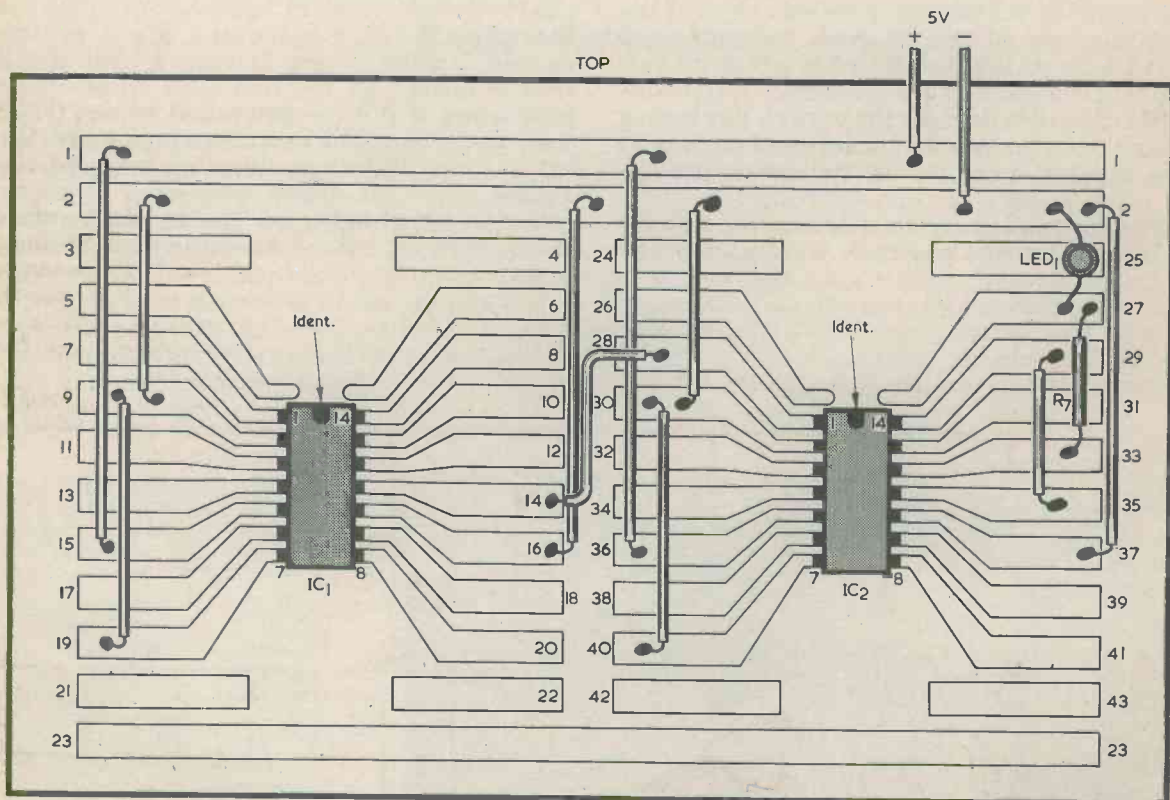

Fig. 2. First stage in construction. The i.c.'s are mounted as shown, then the wire links, LED1 and R7 are blobbed on
i.c. can be held in a paper clamp in the manner shown in the photograph* if you are worried about heat shunting. However, tinning is such a quick operation that there is no danger to i.c.'s of the type used here. Set the board right way up on the bench then place IC1 on it as shown in Fig. 2, with pin 1 on pad 7. Blob on pin 1 using a blob of solder freshly melted on the iron then check that the positioning of IC1 on the pads is correct. If all is well, blob pin 8 to its pad, then check again. When satisfied that the pin positioning is correct, blob on all the other pins. This process of checking is necessary because the i.c. can be easily removed when only pins 1 and 8 are soldered to the board.
When the i.c.'s have been mounted start the circuit wiring by making the supply connections to track 1 (5 volts positive) and track 2 (supply negative). Using insulated wire links, connect pin 10 of each i.c. to track 2, and connect pin 5 to track 1. Connect R7 between pad 33 (pin 12 of IC2) and the spare pad 27, then connect the l.e.d. between this pad and supply negative at track 2. There is a flat on one side of the l.e.d. body, and this indicates the cathode lead-out which connects to track 2. Next connect pins 2 and 7 of each i.c. to supply negative. If these two pins are not connected to the negative rail no counting will take place, since these are the reset pins of the counters. Finish off the i.c. connections by connecting pin 11 of IC1 to pin 1 of IC2, and connecting pin 11 of IC2 to pin 14 of IC2. All the wiring as so far described is shown in Fig. 2.